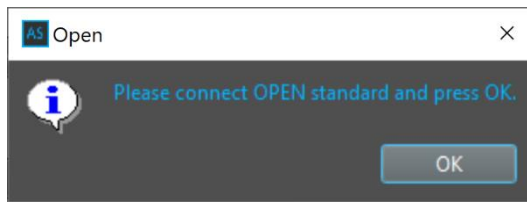

Figure 11-60: Open calibration - OK
9. In the OSL Calibration tabbed page, click Start Open Calibration. In the Open calibration dialog, click OK as shown in Figure 11-60.